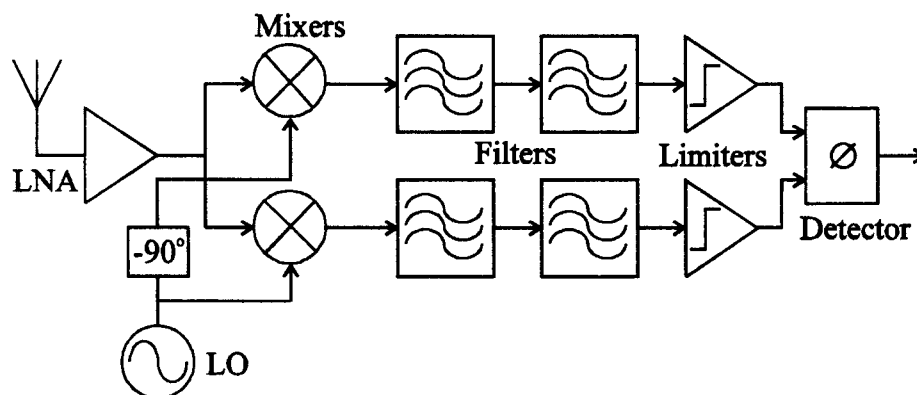

Figure 4
4. *Figure 4* shows a block diagram of a direct conversion paging receiver for detecting two-level frequency-shift keyed (FSK) modulated signals. Briefly explain the operation of this receiver, outlining the function of each of the blocks shown.
The mixers in the receiver of *Figure 4* are implemented as bipolar double-balanced mixers (Gilbert mixers). In a switching mixer, the local oscillator (LO) input is driven by a square wave rather than a sinusoidal input. Give two advantages and one disadvantage of a switching mixer compared to a mixer with a sinusoidal local oscillator signal. *3 marks*